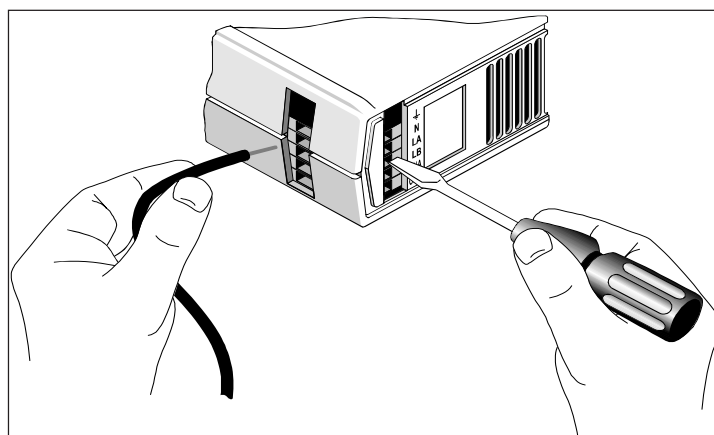

Fig. 1-2: Connecting to 'cage clamp' terminals.
2. Insert the screwdriver blade as far as it will go into each terminal release point (see Fig.1.2). This will open the cage clamp, allowing the cable to be withdrawn. It is suggested that the input and output cables are identified with a label to assist reconnection.
3. Insert the blade of a small flat-bladed screwdriver into the notch on the terminal cover plate, and gently prise out the plate to gain access to the power connector (see Fig.1-2).
Insert the screwdriver as far as it will go into each terminal release point (see Fig.1.2). This will open the cage clamp, allowing the cable to be inserted. Release the pressure on the screwdriver, and check the security of the cable connection.